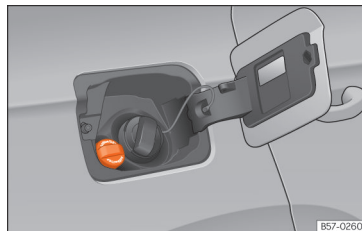

Fig. 302 AdBlue tank cap.
- Open the tank cover »» Fig. 302.
- Turn the SCR tank cap anti-clockwise »» Fig. 302.